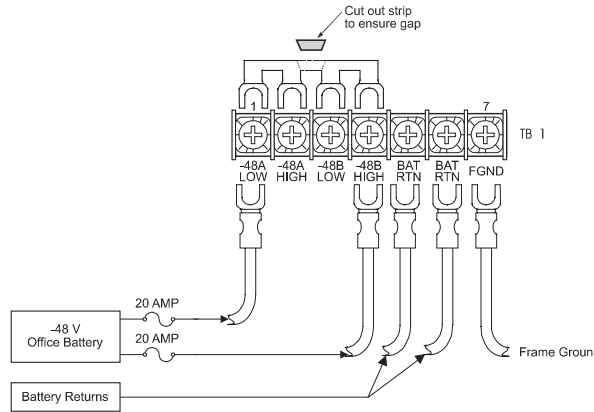

Figure 4. Redundant Source Power Wiring
1. Wire the COT shelf according to Figure 4.
2. Remove the section of the bridging clip between the second and third lugs as shown in Figure 4.